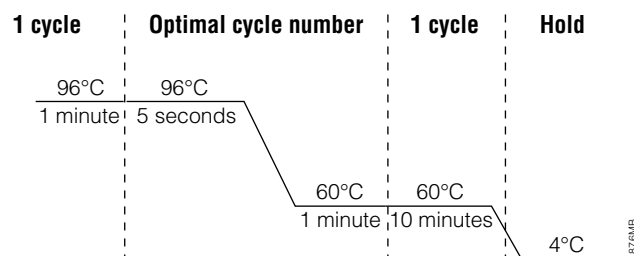

Figure 30. Thermal cycling protocol for the GeneAmp® PCR System 9700, Veriti® 96-Well Thermal Cycler and ProFlex® PCR System.
2. Select and run the recommended protocol, which is provided below and in Figure 30. The total cycling time is approximately 1 hour.